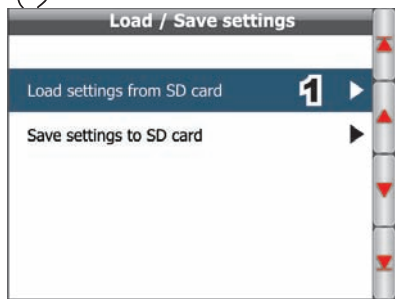

Fig. 179
- 1 Select item **Load settings from SD card** (Fig. 179) and press **OK**;